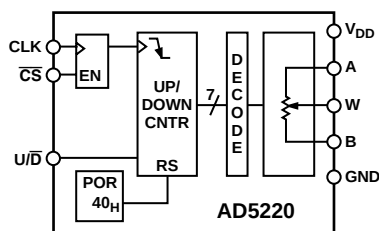

Figure 35. Block Diagram
The AD5220 contains a three-wire serial input interface. The three inputs are clock (CLK), $\overline{CS}$ and UP/DOWN ($U/\overline{D}$). The negative-edge sensitive CLK input requires clean transitions to avoid clocking multiple pulses into the internal UP/DOWN counter register, see Figure 35. Standard logic families work well. If mechanical switches are used for product evaluation they should be debounced by a flip-flop or other suitable means. When $\overline{CS}$ is taken active low the clock begins to increment or decrement the internal UP/DOWN counter dependent upon the state of the $U/\overline{D}$ control pin. The UP/DOWN counter value (D) starts at 40H at system power ON. Each new CLK pulse will increment the value of the internal counter by one LSB until the full scale value of 3FH is reached as long as the $U/\overline{D}$ pin is logic high. If the $U/\overline{D}$ pin is taken to logic low the counter will count down stopping at code 00H (zero-scale). Additional clock pulses on the CLK pin are ignored when the wiper is at either the 00H position or the 3FH position.